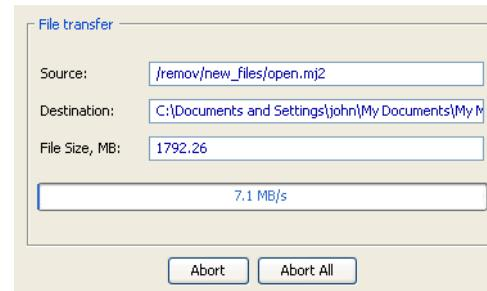

Figure 4-9. File Transfer Screen
Step 7. Click on the clip (or file) that you wish to transfer and then click on the **Select** button. The clip will then be added automatically to the **Source transfer list** (Figure 4-9). Repeat this step for each of the clips (or files) that you wish to transfer.
to the **Source transfer list** (Figure 4-9). Repeat this step for each of the clips (or files) that you wish to transfer.